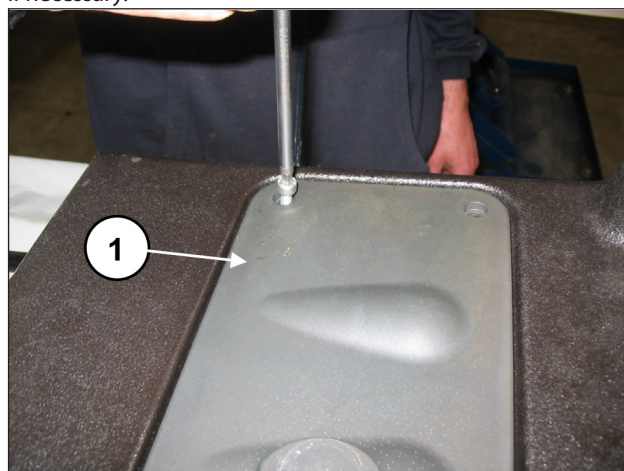
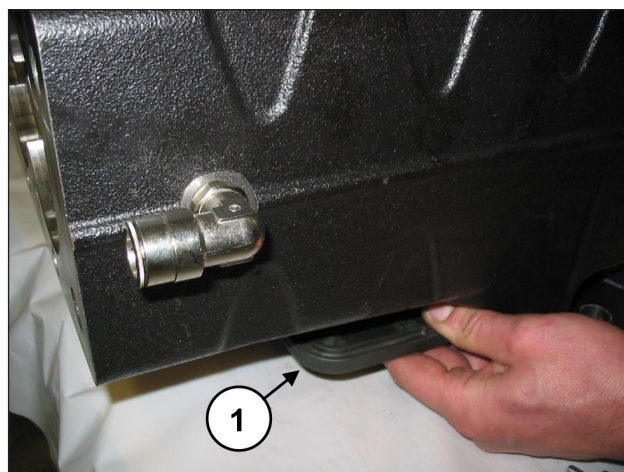

Fig. 120
Fig. 121
Remove the upper inspection cover (pos. ①, Fig. 120) and the lower inspection cover (pos. ①, Fig. 121) by unscrewing the 4+4 attachment screws. Remove the O-rings and replace them if necessary.